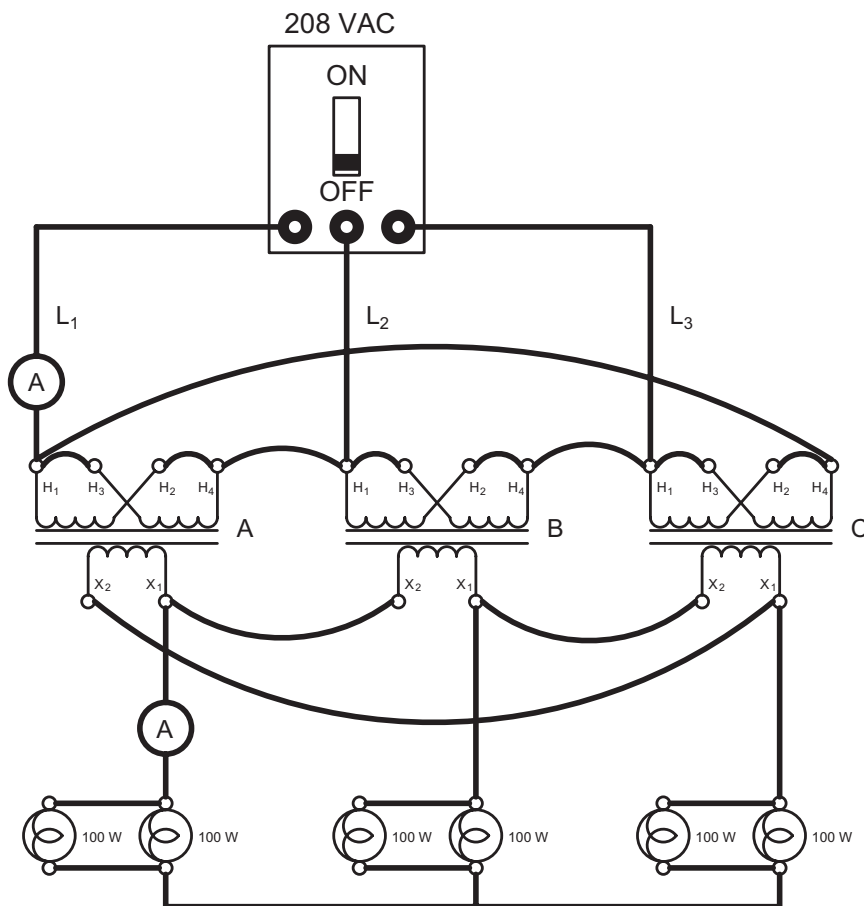

Figure 24-20 Transformers with delta connected primary, delta connected secondary, and wye connected load.
20. Reconnect the transformers as shown in Figure 24-20. In this connection, the primary windings remain connected in a delta configuration, but the secondary windings have been reconnected from a wye to a delta.